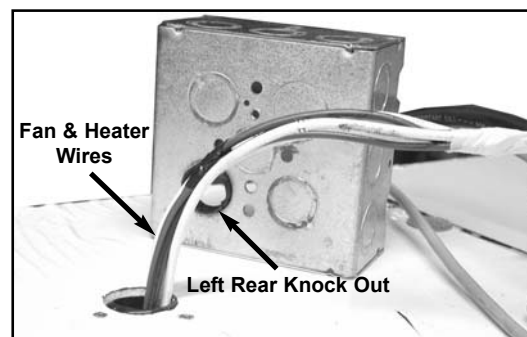

Figure 1
1. Feed Air Wash System Fan and Heater Wires through Top Left Front Corner of Roof Panel. See **Figure 1**.